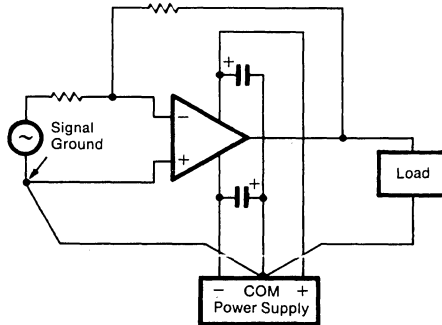

FIGURE 4. Proper Power Supply Connections.
8.1 Grounding. Because of the high output current capability of the OPA501/883B Series, the user is cautioned to observe proper grounding techniques. Figure 4 illustrates a recommended technique.